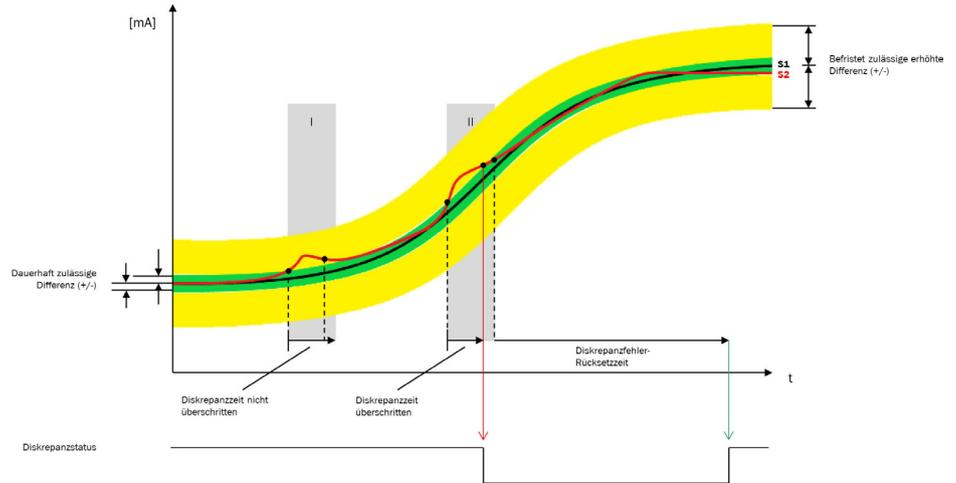

Figure 318: Exceeding the unlimited permissible difference and discrepancy time
- The measured values from sensor AI1 and sensor AI2 deviate from one another for longer than the configured **Discrepancy time** and by more than the **Permanently permissible difference**, without the configured **Limited permissible increased difference** being exceeded (figure 318, case II).